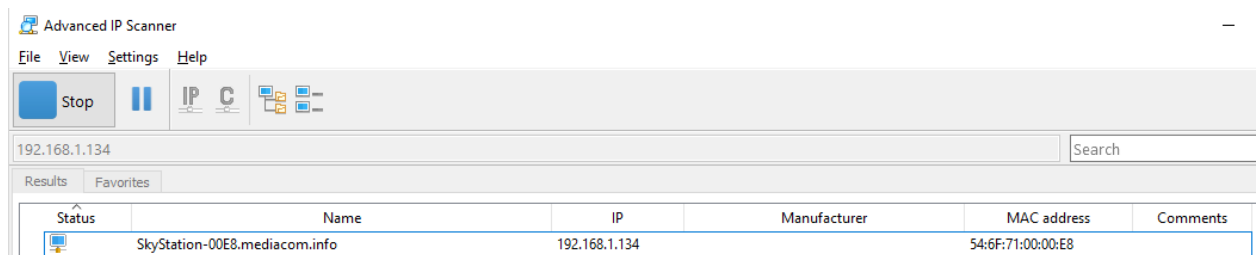

Figure 5: Example of Advanced IP Scanner showing a SkyStation IP Address
2. Use a network scanning tool (eg. Advanced IP Scanner) to look for a device named “SkyStation-XXXX” (XXXX should match the four hex characters of the last two bytes of the device’s MAC address). See Figure 5.